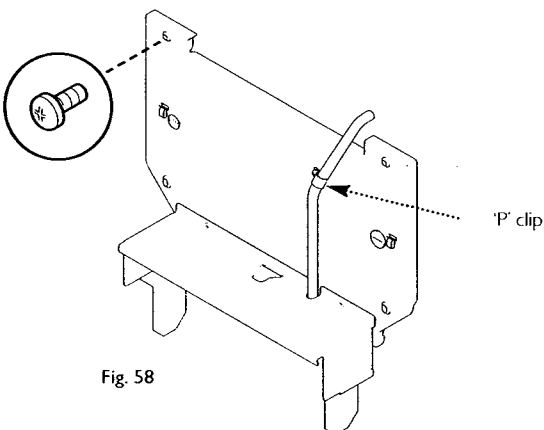

Fig. 58
5. Undo the four screws retaining the door and remove the door (Fig. 58).